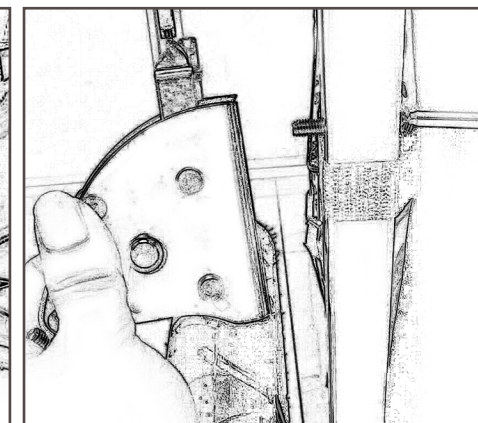

Figure 14
3. Place screws through holes in frame – from inside to outside. (Fig. 14)